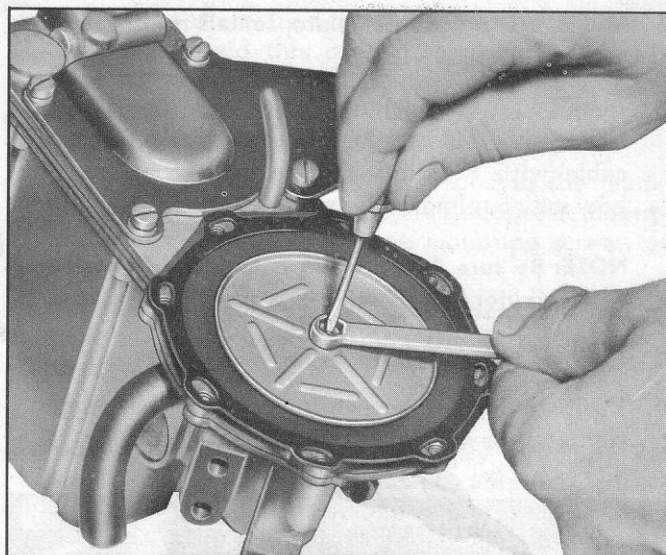

Fig. 80—Installing Diaphragm on Control Link
9. Install diaphragm on control link (fig. 80). See caution note under Step 5 of Main Control Diaphragm Repair Section. Check to be sure small gasket is located under center of diaphragm.